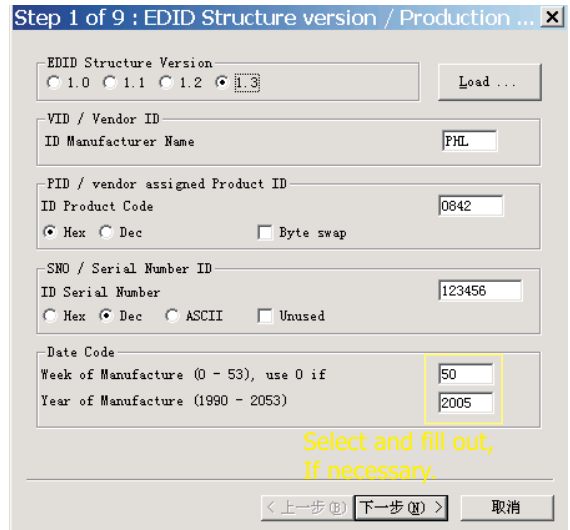

Fig. 14
- Click (new function) icon from the tool bar, bring up Step 1 of 9 as shown in Fig. 14. EDID46 DDC application provides the function selection and